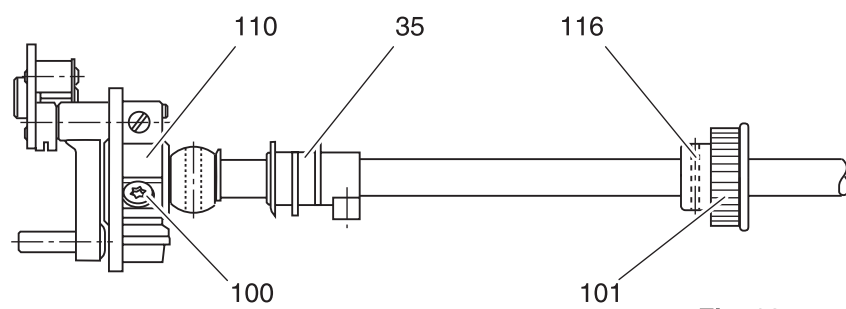

Fig. 68
- Turn the handwheel until the fastening screw of the synchronizer control cam 35 faces downwards (fig. 68).